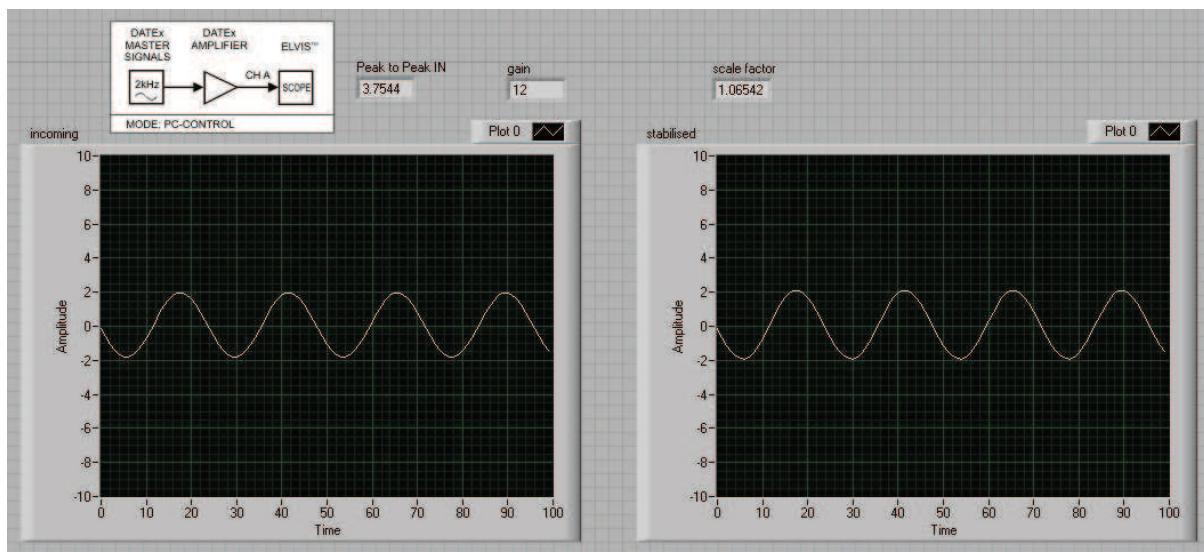

Figure 38: "gain control with amp.vi" front panel
1. Use patching cords to wire up DATEx blocks according to the wiring diagram in Figure 38.